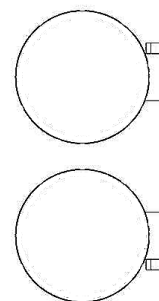

FIGURE 3
10. Unscrew the hose clamps and feed the tail end of the clamp through the clips on the inside of the heatshields, the larger clamps go to the rear of the heatshields where they will rest on the muffler bodies, smaller ones to the front for the headpipes. The screw end of the hose clamp should be accessible for tightening but not visible when heatshields are mounted to the pipes, see Figure 3.